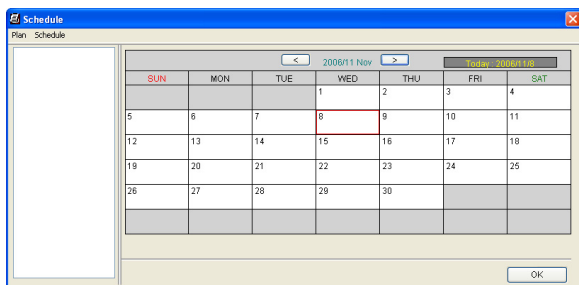

Figure 1-33
1. On the Schedule window, double-click an established plan. A plan dialog box similar to Figure 1-33 appears.
2. Click the **Advanced Setting** button (No. 5, Figure 1-33). The Advanced Setting dialog box appears.
4. On the plan dialog box, click the **Notification** button (No. 8, Figure 1-33), drag the mouse over SMS and / or E-mail timelines to define the Start time and End time to send out alerts.